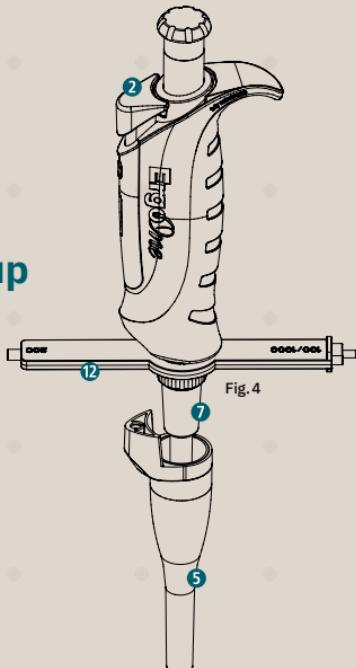
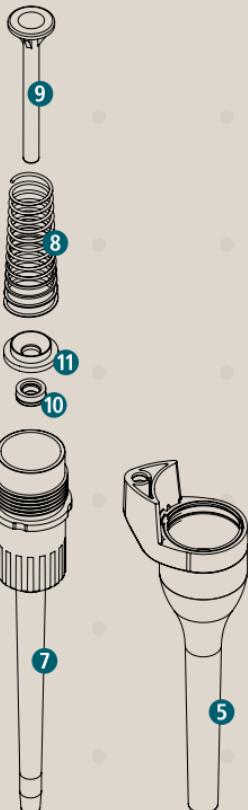

Fig. 4
Fig. 5
- Fully depress the tip ejector button ② and pull the tip ejector ⑤ down (Fig. 4).
- Carefully unscrew the tip holder ⑦ by turning the auxiliary tool ⑫ clockwise (ErgoOne® 5ml tip holder can be removed without the auxiliary tool).
- Remove the O-ring 7a, spring 8 and piston 9 (Fig. 5).
- Remove the spacer ring 11 (only 100µl, 200µl and 1000µl models) (Fig. 5).